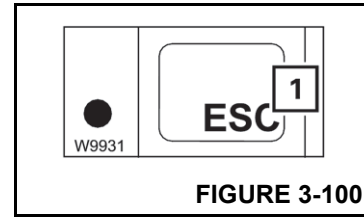

FIGURE 3-100
Press the *Esc* button (1) (Figure 3-100) once.